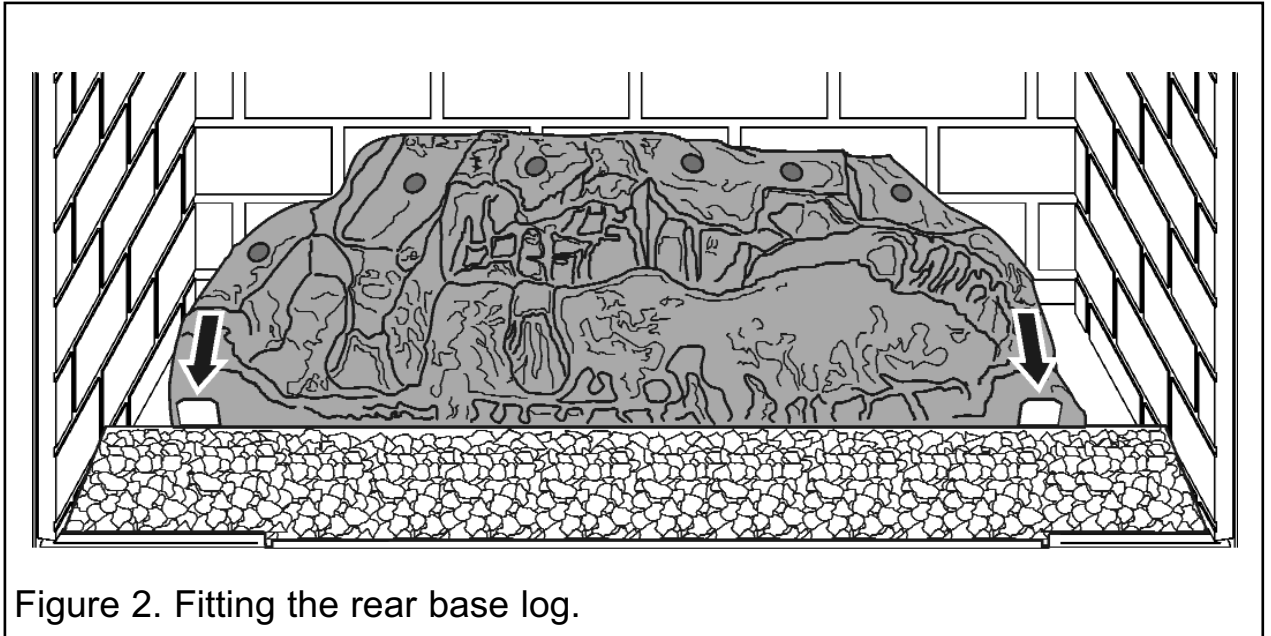

Figure 2. Fitting the rear base log.
2. Remove the rear base from its protective packaging and position it on top of the burner as shown in figure 2. Place the rear base ceramic at the rear of the burner tray and slide forward until the cut-outs in the base locate against the brackets behind the burner.